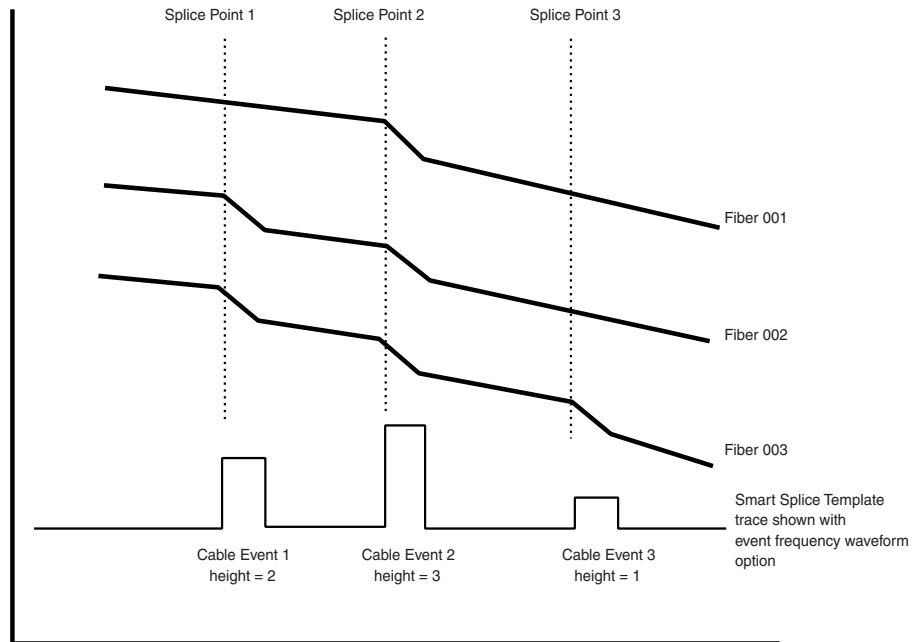

Figure 7-1: Smart Splice Template Trace
Figure 7-1 is a graphic representation of a smart splice template trace generated from the traces of three (3) fibers within a cable containing three (3) splice points. The representative trace for Fiber 001 has one detectable event at splice point 2; Fiber 002 has detectable events at splice points 1 and 2; and Fiber 003 includes events at all three splice points. The resultant smart splice template shows three cable events. Note that the height of each is representative of the frequency of the number of traces that have a detectable event at that location.